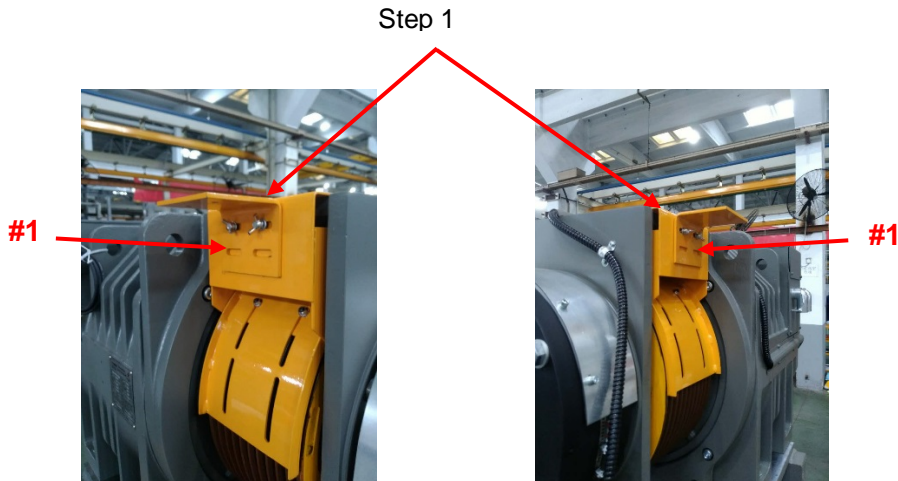

Figure 1 Install L Brackets
**Step 1:** Install L Brackets [#1] to the rope retainers using (2) wing bolts, flat washers, and lock washers. See Figure 1.